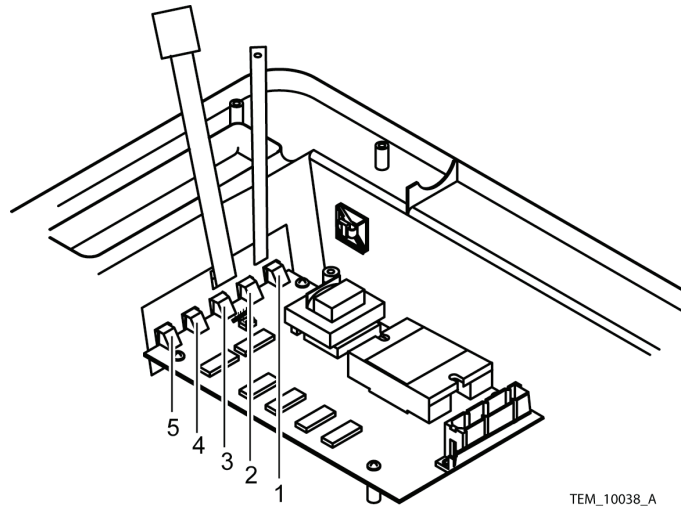

Figure 37. Control PCB Lights
Carefully align the lights on the Control PCB with the control panel key pad push buttons. Failure to do so could damage the key pad or the Control PCB lights. See Figure 37, items 1-5.